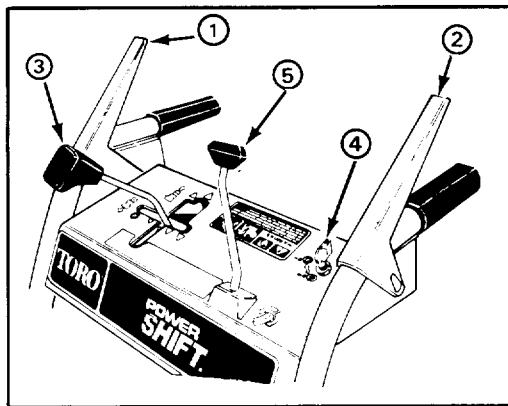

Figure 9.
Auger/Impeller Control (Fig. 9) — Control has two positions: ENGAGE and DISENGAGE. To engage auger and impeller, compress lever against right handle grip. To disengage, release lever.
Traction Drive Control (Fig. 9) — To engage traction or activate power shift system, lever must be compressed against left handle grip. To stop traction, release lever.
Speed Shift Control (Fig. 9) — The control has four speeds forward and two reverse and also controls power shifting of wheels. To select speeds, move shift control to desired position.
Auger Lock-Up: (Fig. 9) — When auger/impeller control and traction drive control are both compressed, the traction control locks the auger/impeller down. Releasing the traction control releases the auger/impeller.
Discharge Chute Control (Fig. 9) — Rotate discharge chute control clockwise to move discharge chute to the right and counterclockwise
Ignition Switch (Fig. 9) — Switch has two positions: ON and OFF. Rotate key to ON position before starting engine. To stop engine, rotate key to OFF.
1. Move speed selector to N — neutral — and throttle to FAST (Fig. 9).
4. Rotate ignition key to ON (Fig. 9).
1. Release traction and auger/impeller drive controls (Fig. 9).